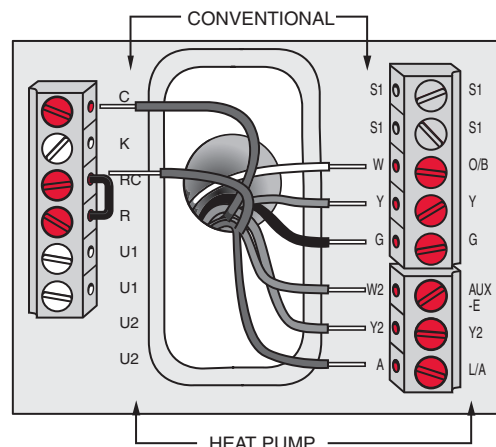

Fig. 222. Inserting wires in thermostat terminal block.
2. Loosen the screws for the appropriate terminals. Insert wires in the terminal block under the loosened screw. See Fig. 222.